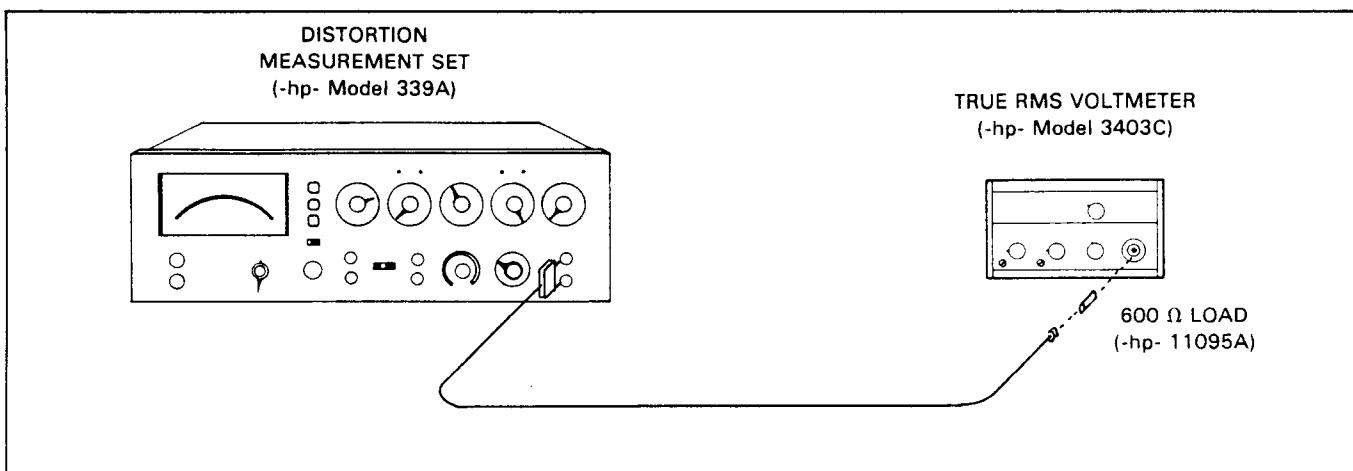

Figure 4-6. Oscillator Output Impedance Test.
- b. Connect the equipment as shown in Figure 4-6 (without the 600 ohm load).
- e. Disconnect the cable from the True RMS Voltmeter and install the 600 ohm load as shown in Figure 4-6.